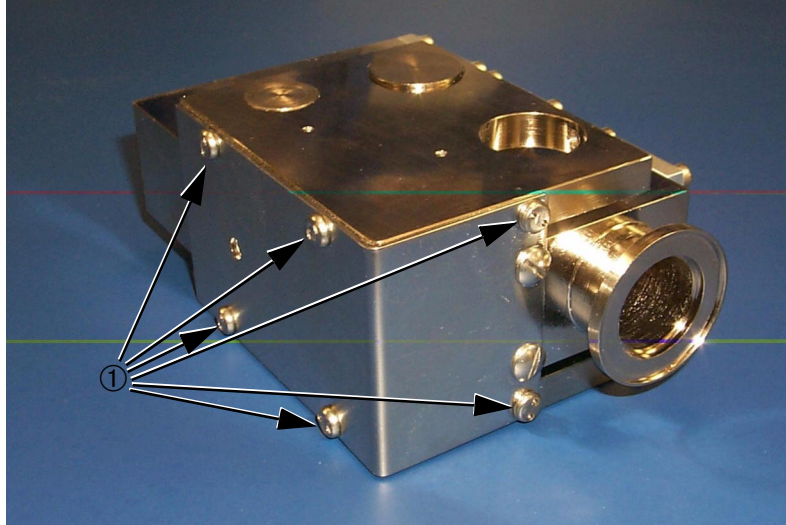

Figure 5-6 Magnet Body Bracket Screws
Do not remove the six (6) magnet body bracket screws ① shown in Figure 5-6 while performing maintenance on the spectrometer tube.